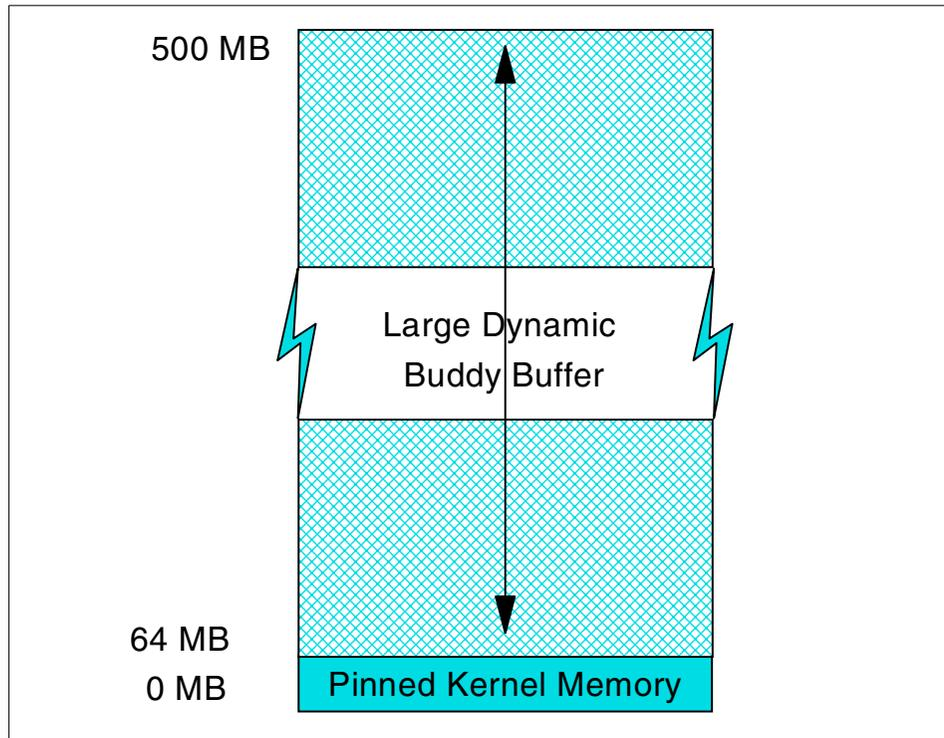

Figure 4-4 Large dynamic buddy buffer
- ▶ For an AIX 64-bit kernel, 2000 256 KB buffers, which results in an initial pinned buddy buffer size of 64 MB that can increase to 500 MB. The 64-bit kernel is able to allocate a much larger buddy buffer. This is shown in Figure 4-4 on page 84.